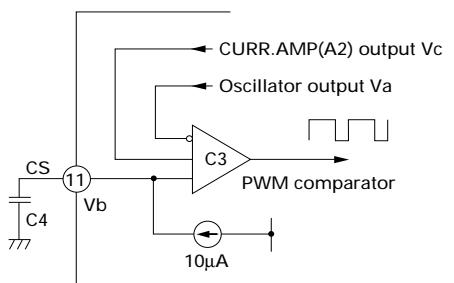

Fig. 5 PWM comparator
Figure 5 shows the comparator for PWM. When the oscillator output (V_a) is smaller than the current error amplifier output (V_c), the comparator output is high and the output ON signal is generated at pin 8. Pin 11 (CS) is a terminal for soft start. This terminal charges capacitor C_4 with the internal constant current (10μA) for a soft start. Priority is given to V_b and V_c whichever is lower.